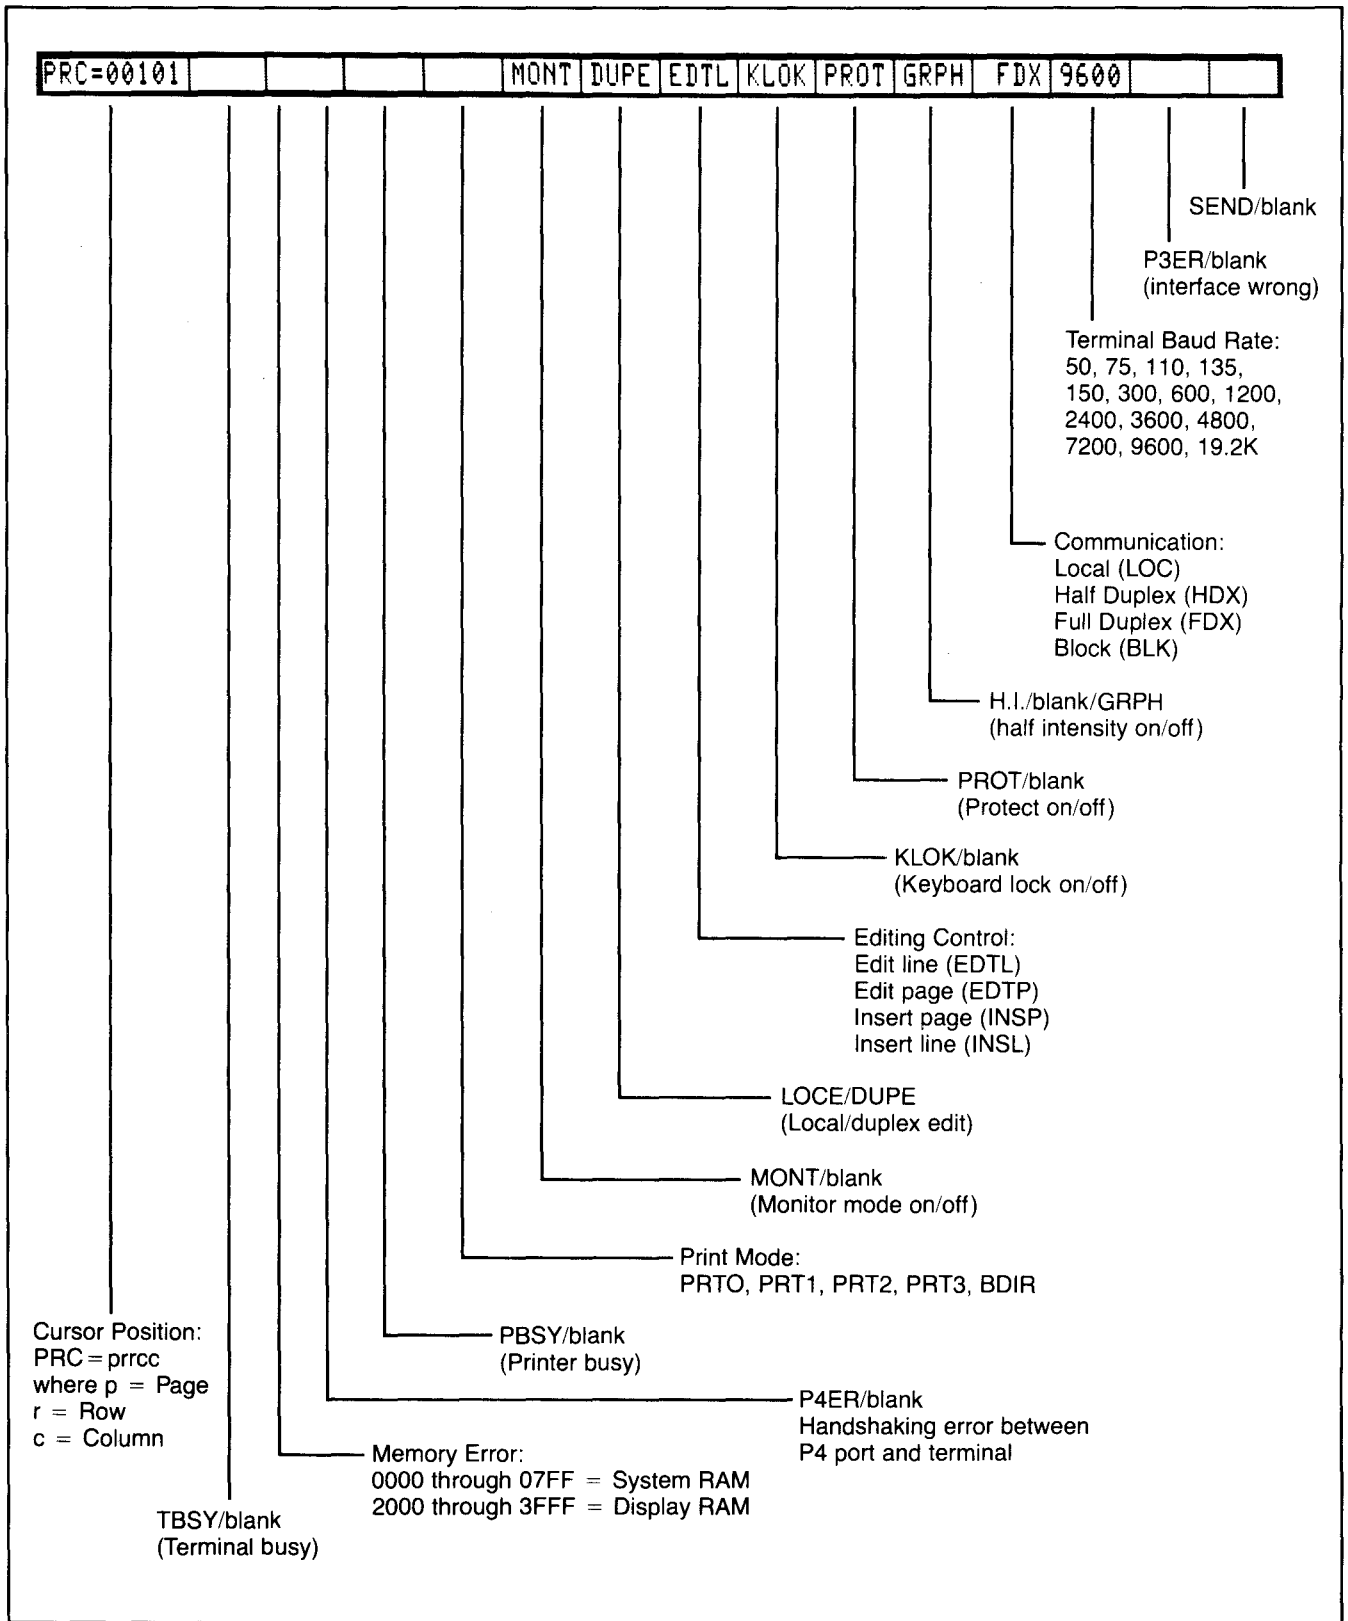

Figure 5-3 Status Line Fields
The possible values for the status line are summarized in Figure 5-3 and described in greater detail in the following sections.
3. Press T to change the values of a block. Figure 5-3 lists the values which may appear in the status line blocks.